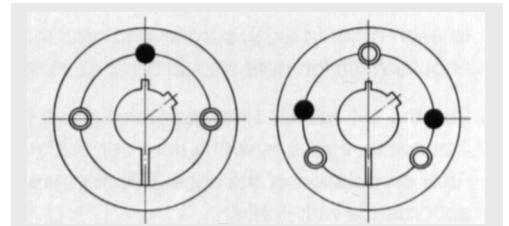

Fig. 1
2. Insert the bush into the coupling hub making sure that all connecting bores are lined up. This means that the threaded half holes shall be opposite the plain half holes (Fig. 1).